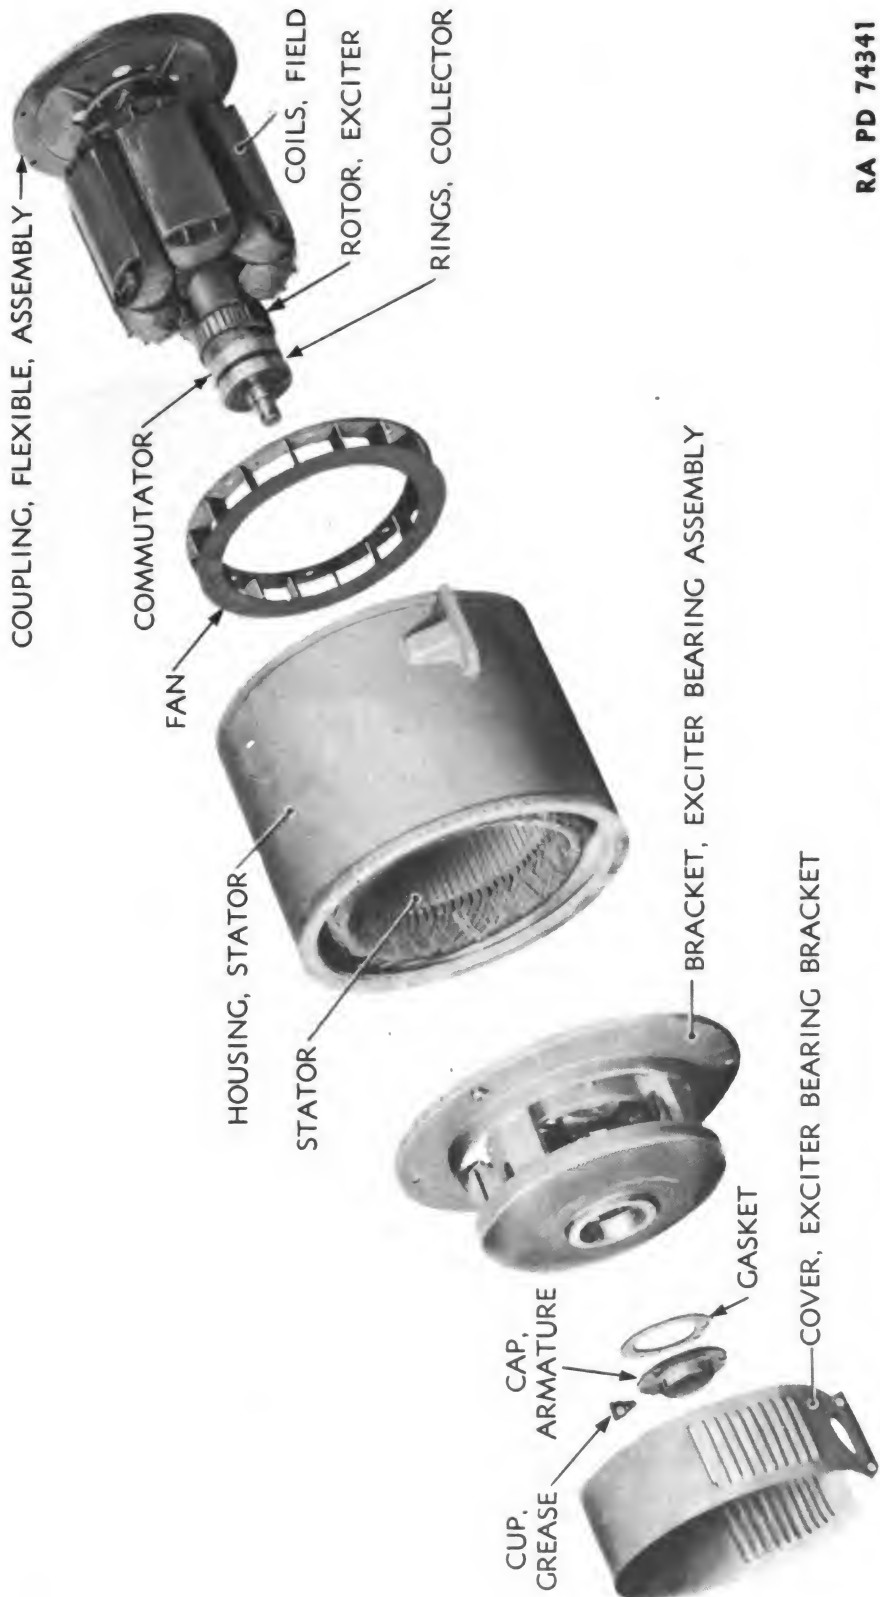

Figure 187 — Alternator and Exciter (H. B. Co. Unit) — Exploded View
b. H. B. Co. Units (fig. 187).
(1) Take out screws and nuts holding ends of exciter bearing bracket cover together, and remove cover and gasket.